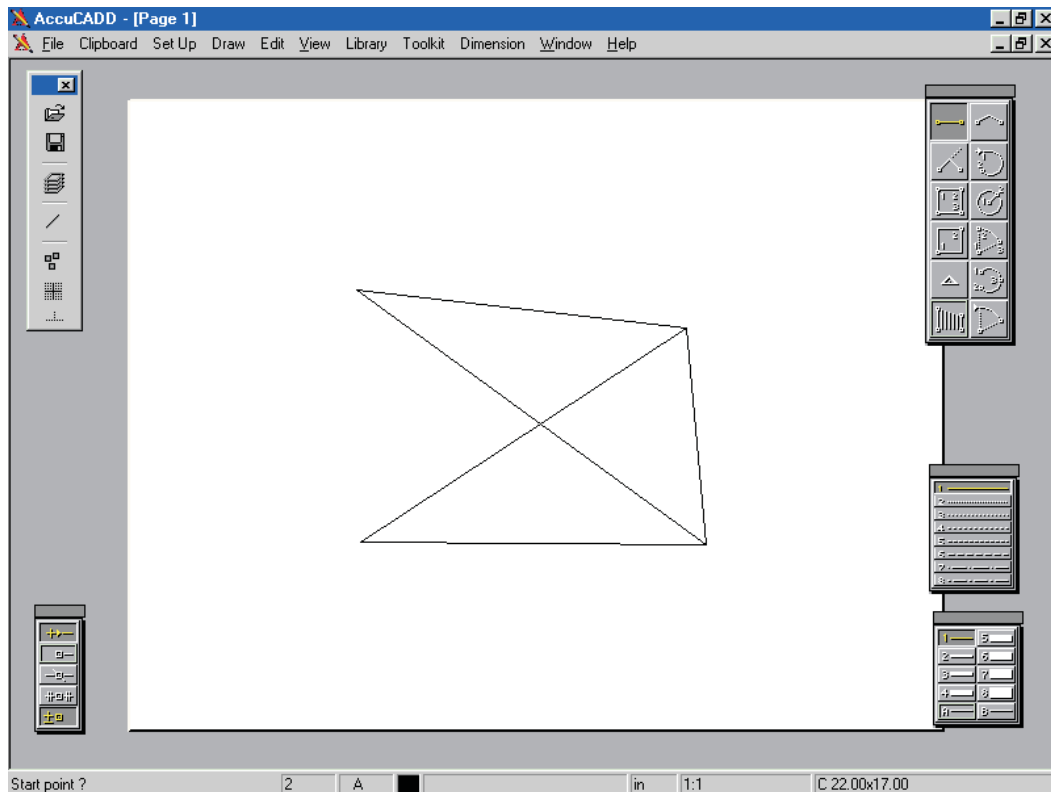

Figure 9: Larger paper size, smaller image
□ Select Paper Size from the Set Up menu and select C. The status line now reports 22 x 17, and the aspect ratio (width: height) of the work area has altered accordingly, as in Figure 9.